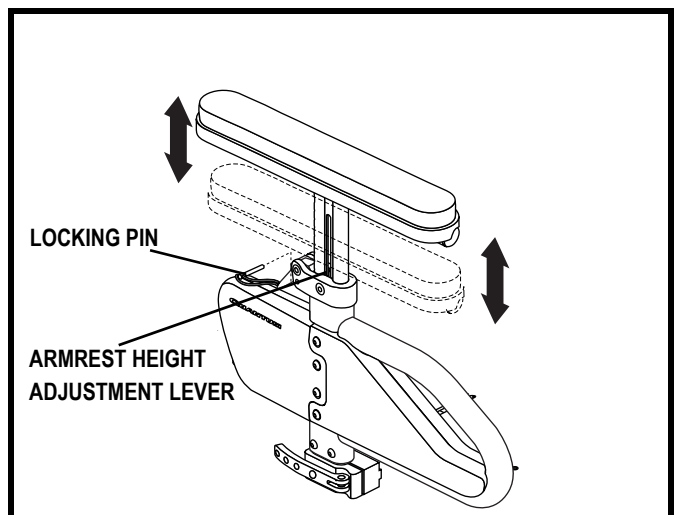

Figure 17. Armrest Top Height Adjustment
1. If present, remove the optional locking pin. See figure 17.